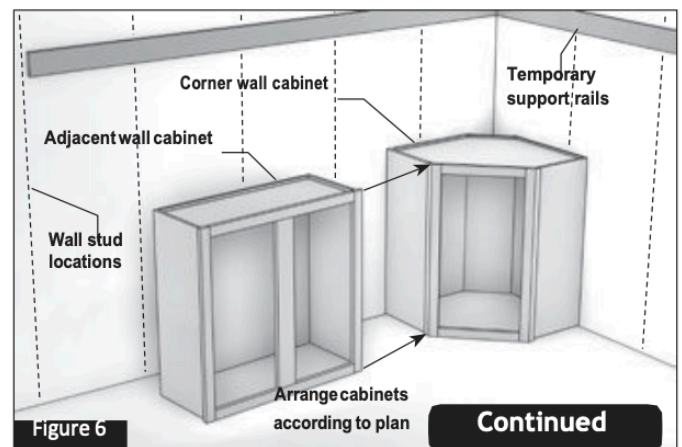

Figure 6
- 2.3 One by one, align the remainder of the cabinets and fillers in position on the floor using the plan provided by the designer. (Figure 6)